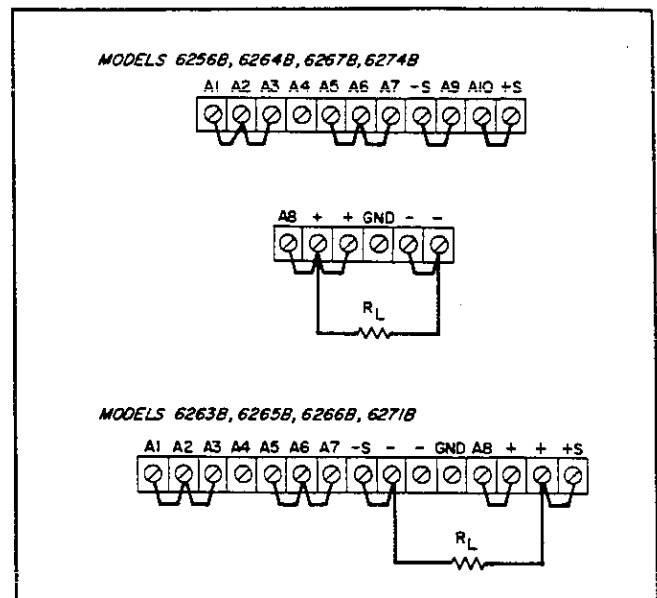
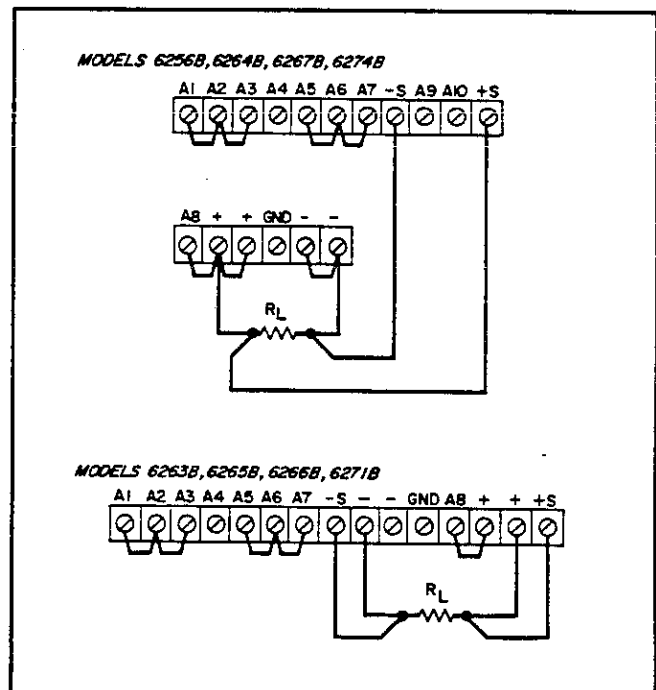

Figure 3-2. Normal Strapping Patterns
Figure 3-3. Remote Sensing
a. Turn CURRENT controls ⑦ and OVERVOLTAGE ADJUST potentiometer ⑤ fully clockwise and check that rear panel straps are connected as shown in Figure 3-2, but do not connect load R_L .
terminals (see Figure 3-2), and turn it back on.
3-7 This power supply was shipped with the proper rear panel strapping connections made for constant-voltage/constant-current operation with local sensing and local programming. This strapping pattern is illustrated in Figure 3-2. By means of the front panel voltage and current controls, the operator selects either a constant-voltage or a constant-current output. Whether the supply functions in the constant-voltage or the constant-current mode depends on the settings of the voltage and current controls and on the resistance of the output load. For values of load resistance greater than a critical crossover value equal to the voltage setting divided by the current setting, the supply
3-26 Because of the unavoidable voltage drop developed in the load leads, the normal strapping pattern shown in Figure 3-2 will not provide the best possible voltage regulation at the load. If, for example, one were to use 8-gauge wire to connect a load that is located only 5 feet from a Model 6256B 10V 20A supply, the regulation measured at the load would be about 120 millivolts as compared to the 1.2 millivolt regulation that could be measured at the supply's output terminals. Thus even relatively short load leads can cause a considerable degradation of the supply's performance. The remote sensing connections shown in Figure 3-3 improve the voltage regulation at the load by monitoring the voltage there instead of at the supply's output terminals. (The advantages of remote sensing apply only during constant voltage operation. This is because in the constant current mode the resistance of the load leads has no adverse effect on a supply's performance.)
3-27 As can be seen in Figure 3-3, remote sensing involves removing the (+S) and (-S) jumpers from the rear panel terminals, connecting the load leads normally, and using a separate pair of wires to connect the (+S) and (-S) sensing terminals to the load. The following paragraphs discuss some precautions that should be observed when making a remote sensing installation.
The (+S) jumper is the one that links the (+S) terminal to the (+OUT) or (A10) terminal when the supply's terminals are strapped for normal operation as shown in Figure 3-2. The (-S) jumper is the one that links the (-S) terminal to the (-OUT) or (A9) terminal.